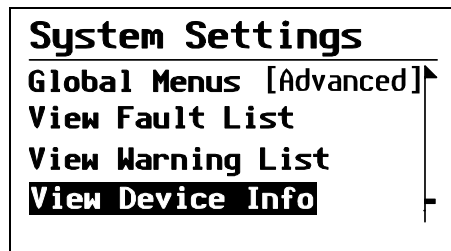

Figure 14 System Settings: View Device Info
4. On the System Settings menu, use the down arrow button to highlight View Device Info, as shown in Figure 14.